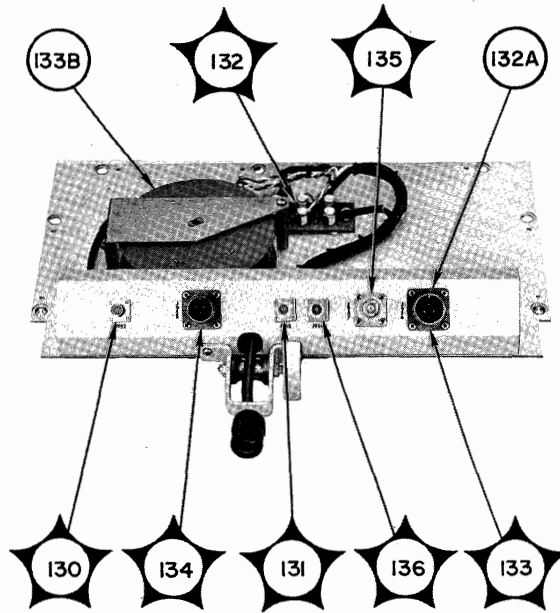

Figure 5-76. Converter Blister,
f. CONVERTER BLISTER TROUBLE-SHOOTING CHART.—Table 5-18 is the trouble-shooting chart for the converter blister. Use the lowest resistance range of the multimeter to measure circuit continuity and the highest range to find high-resistance leakage between normally open circuits. Make measurements at patch-cable connector J601 with P951 plugged into blister connector J951. Perform the steps in the order given, compare the results with those in the NORMAL INDICATION column, and follow the instructions given in the NEXT STEP column. Figure 5-76 shows the location of test points.